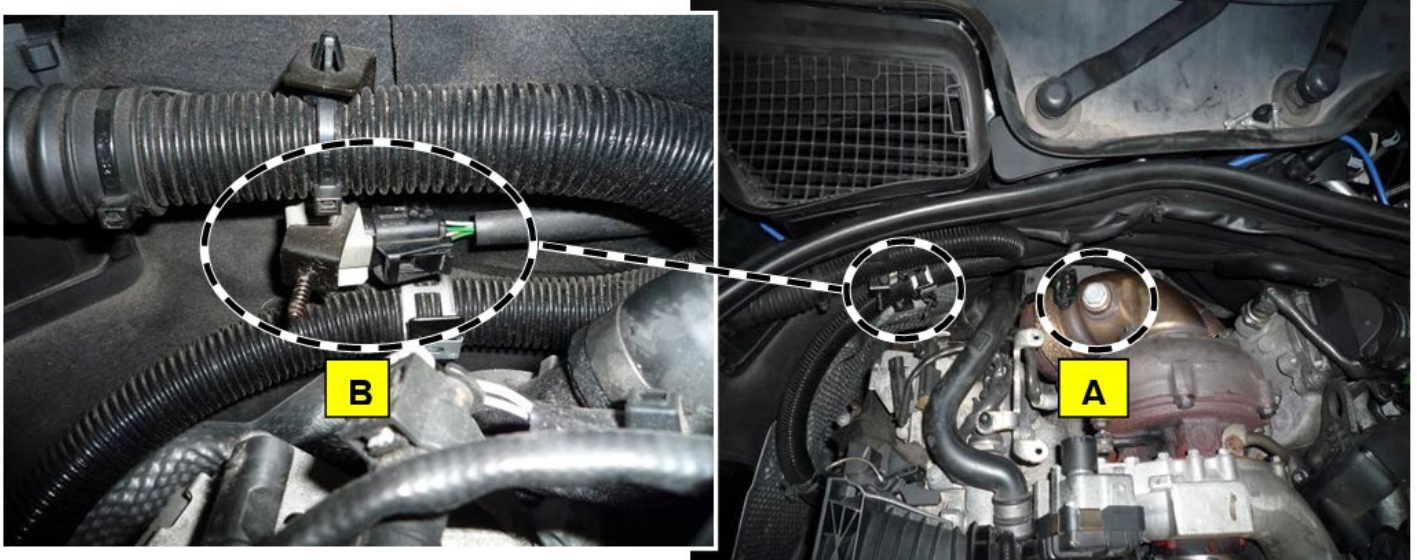

Figure 2
7. Install the plug housing (A 000 545 40 39) on the electrical connection for the oxygen sensor (**Figure 2,B**).